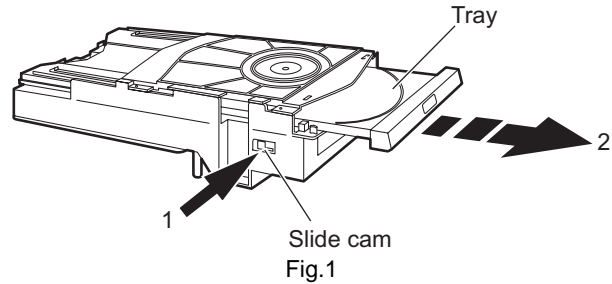

Fig.1
- (1) From the left side of the DVD mechanism assembly, push the slide cam in the direction of the arrow 1 and then pull out the tray in the direction of the arrow 2. (See Fig.1.)